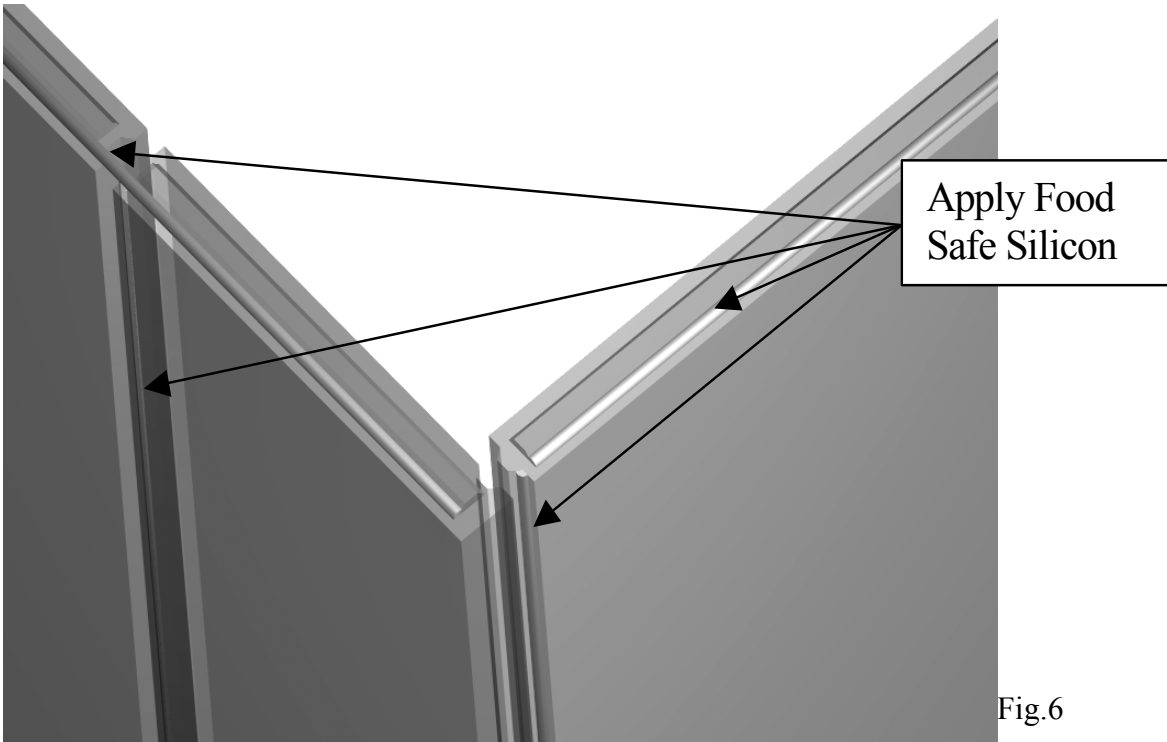

Fig.6
1. Apply moisture seal. (Fig.6)